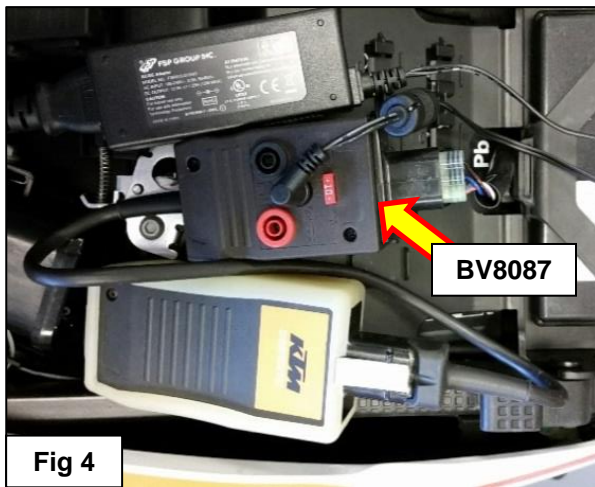
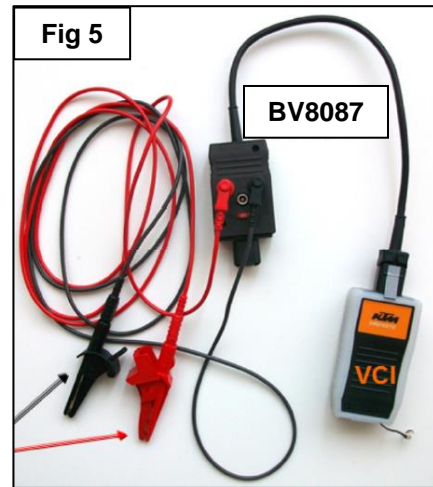

Fig 4
Fig 5
- The external power supply “**BV8087**” must be connected with the scanbox to the bike (**Fig 4**) and supplied with the AC power. Either the AC power from the wall adapter or using the battery connection leads will provide constant voltage to the scanbox and ECU’s (**Fig 5**).
2. Connect the XC_1 to the diagnostic port as shown in **Fig 4** or **Fig 5** with the external power supply adapter, preferably using a USB cable connection to the scanbox. If a cable connection is not possible then using the Bluetooth wireless scanbox connection is okay.